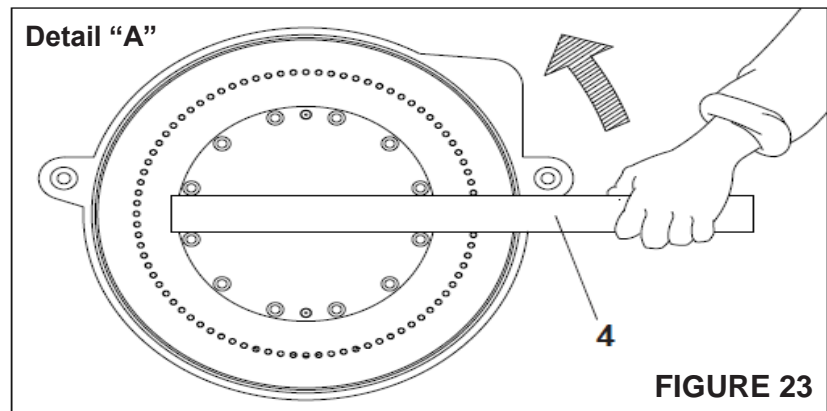

FIGURE 23
9 - SEED ADJUSTMENT (FIGURES 23/24)
- 02 - For assembly or replacement of perforated stainless steel discs, release the pulleys (1), distancing the pneumatic dispenser cover (2), remove the perforated stainless steel disc (3) by disengaging it. Making use of a tool (4), rotate it in the direction of the system operation until the perforated stainless steel disc is completely released, as shown in detail "A" of **FIGURE 23**.